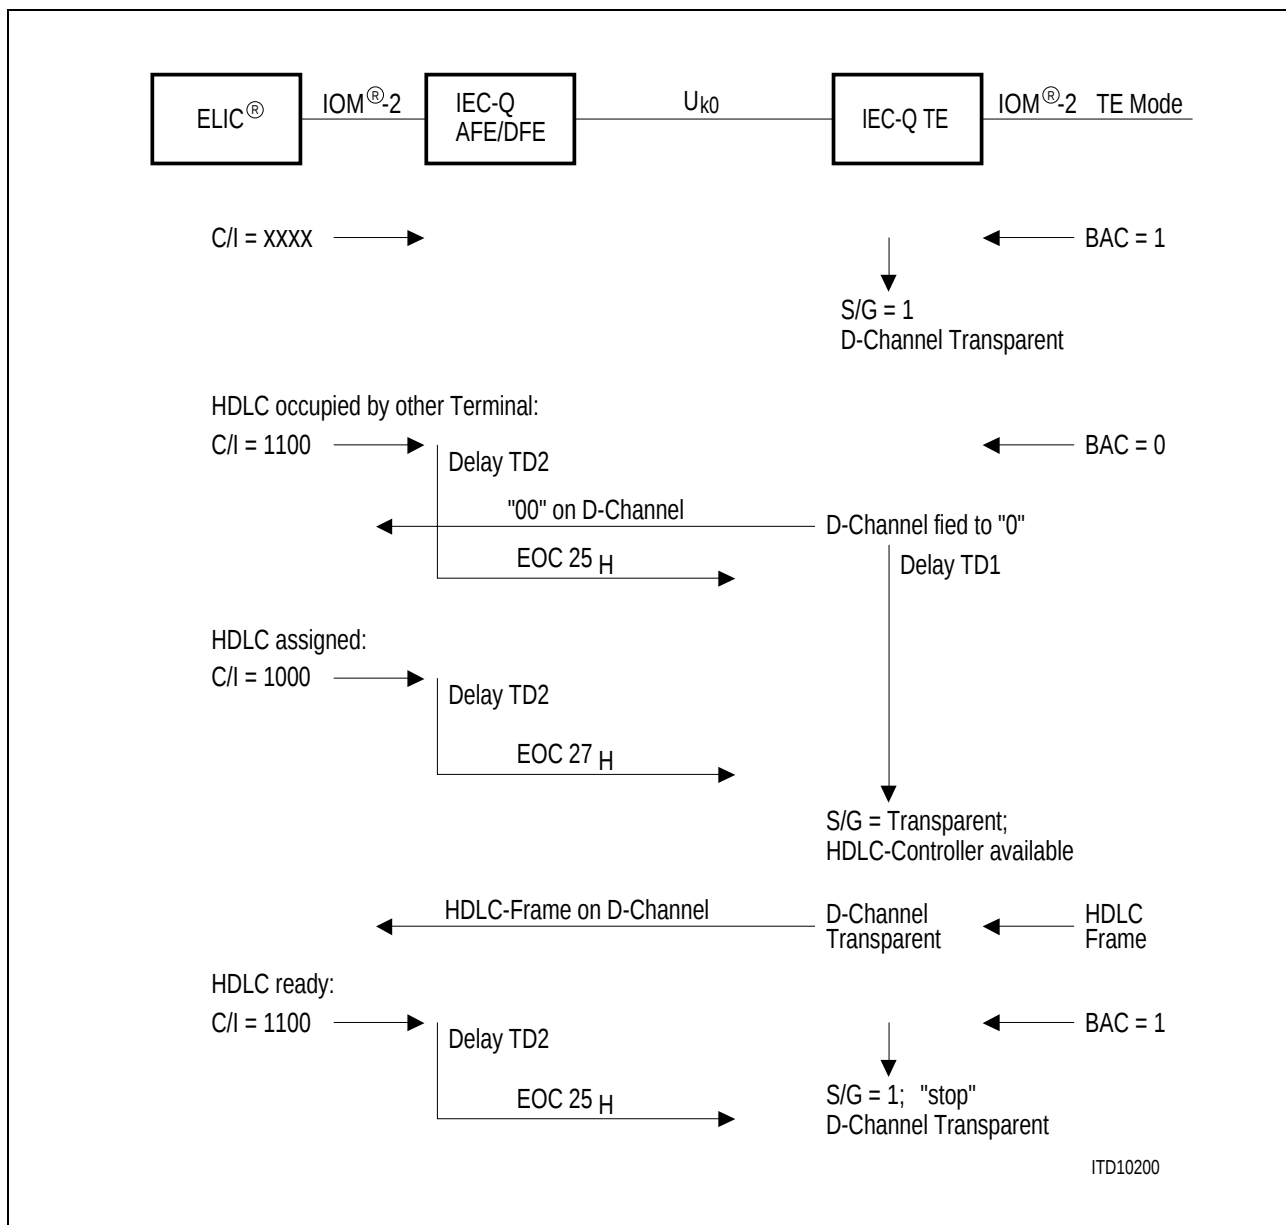

Figure 31 D-Channel Request by the Terminal
**Figure 31** illustrates the request for the HDLC-controller by the terminal. The start state is BAC = 1 at DIN after TD1 has expired. That causes the S/G bit to be set to the stop position.
The delays TD1 and TD2 (see **figure 31**) have the following reasons: TD2 is caused by the 6ms interval in which an EOC message can be transmitted on the Uko interface. As an EOC-message can start once every 6 ms and will take 6 ms to be transmitted, TD2 will be 12 ms in the worst case.